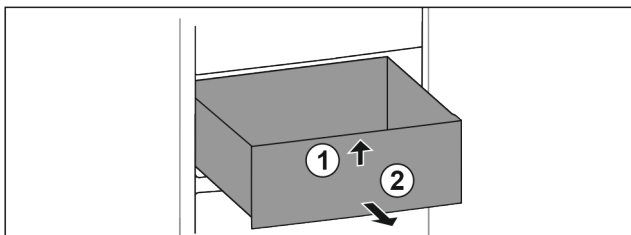

Fig. 102
- Lift up drawer at the front. Fig. 102 (1)
- Remove drawer to the front. Fig. 102 (2)